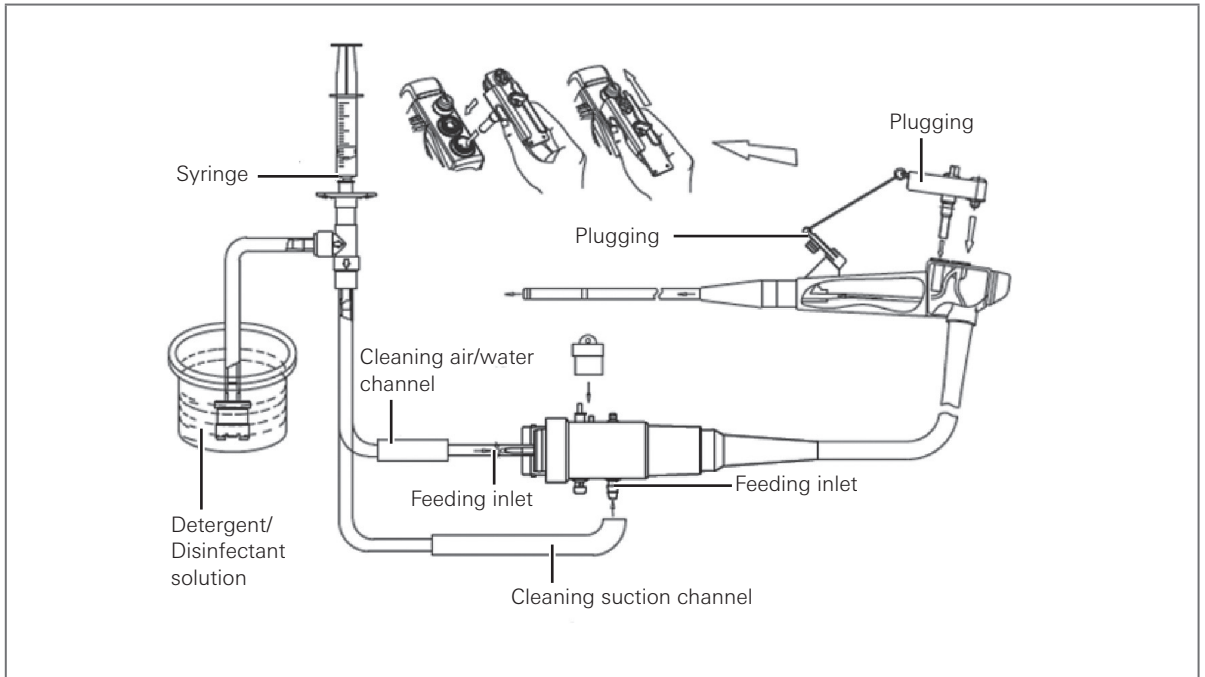

Figure 5.3
- b. Use a 50 mL syringe to respectively inject detergent into the air/water channel and suction channel of the endoscope through the injection tube at least 4 times (200 mL) (as shown in Figure 5.3).